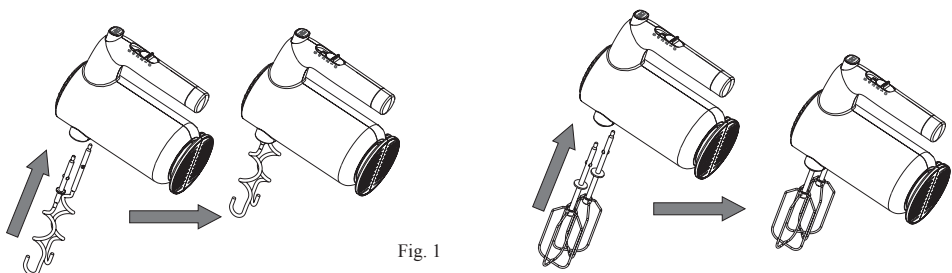

Fig. 1
1. Choose appropriate beater and left and right dough hook, and then put them into the mixer (See Fig. 1).